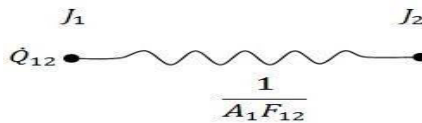

Fig. 6.9 Electrical analogy of space resistance to radiation
- Equation 6.25 can be represented by an electrical circuit as shown in figure 6.9. The factor $1/A_1 F_{12}$ is related to distance between two bodies and its geometry, and is called space resistance to radiation heat transfer.